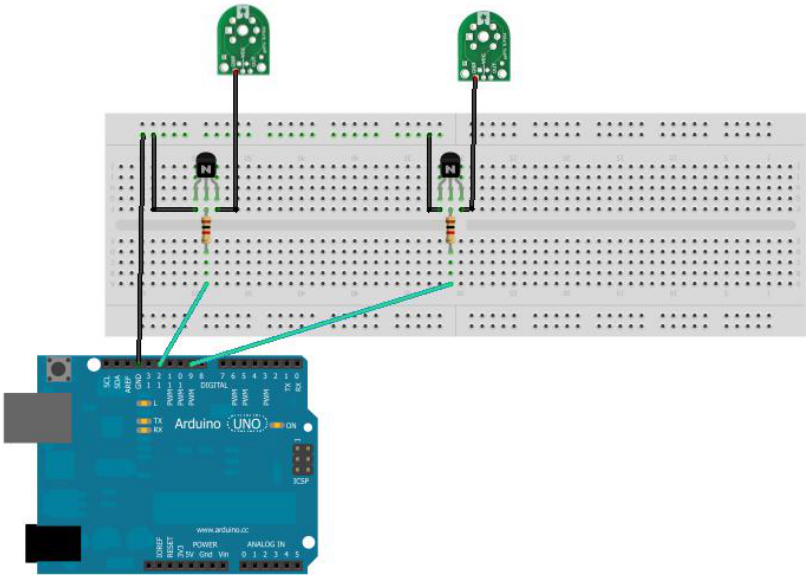

Figure 2-6. Step three.
3. Connect the COLLECTOR pin of the transistor to the GND pin of the sensor (Figure 2-6).